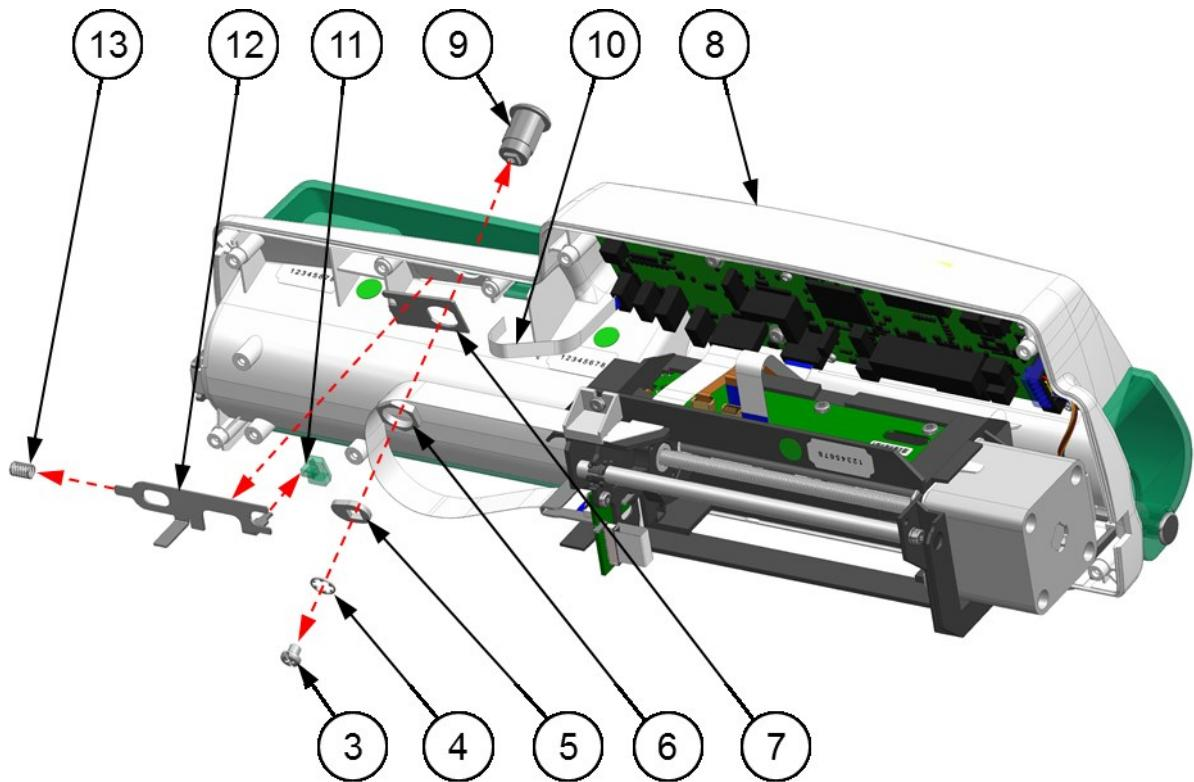
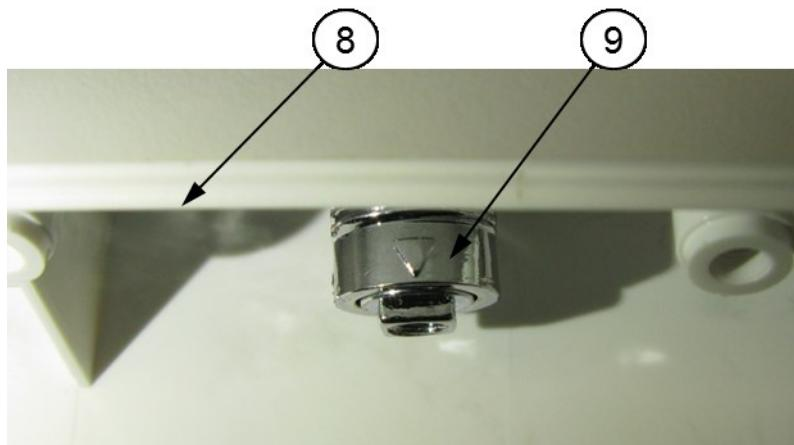

Fig. 88 PCA lock set removal/installation
Fig. 89 PCA lock assembly position
2. Remove the **PCA bolt cover** (12), **Bolt hook PCA** (11) and **PCA bolt cover spring** (13) as shown in **Fig. 88**.
3. Using the **TB-5** unscrew one **Screw M5** (3) and remove with **Toothed washer M5** (4) as shown in **Fig. 88**.
4. Remove the **Lock cam** (5) as shown in **Fig. 88**.
5. Using Flat-nosed pliers **TB-6** unscrew the **Lock nut** (6) as shown in **Fig. 88**.
6. Remove the **PCA lock** (9) as shown in **Fig. 88**.
7. Remove the **Lock housing** (7) as shown in **Fig. 88**.
1. Mount the **Lock housing** (7) in the **Front case** (8) (Fig. 88). Perform the assembly opposite to the direction indicated by the red arrow in Fig. 88.
2. Insert the **PCA lock** (9) in a position, that the triangular mark on the housing of the **PCA lock** (9) is placed relatively to the **Front case** (8) as shown in Fig. 89. Perform the assembly opposite to the direction indicated by the red arrow in Fig. 88.